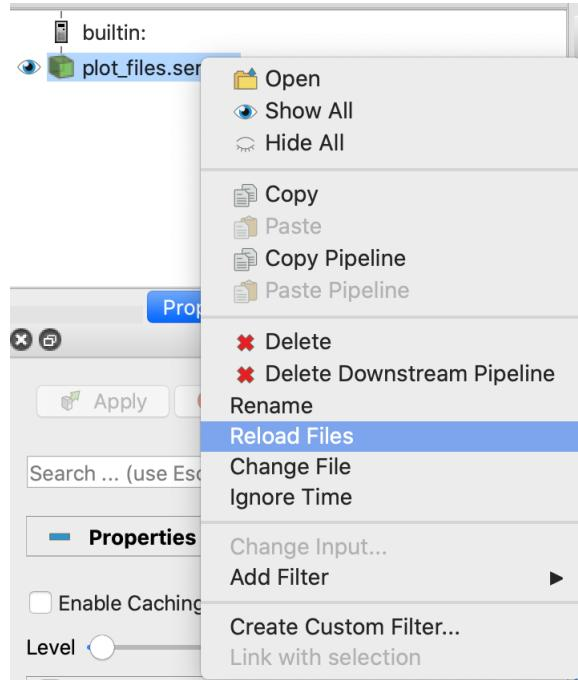
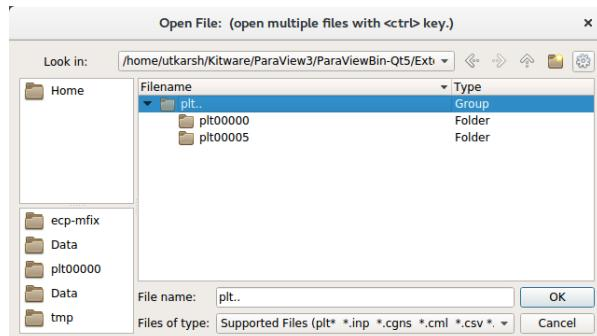

Fig. 17.2: : File dialog in ParaView showing how to reload a series file
Fig. 17.3: : File dialog in ParaView showing a group of plotfile directories selected
2. Navigate to your run directory, and select the fluid or particle plotfile. Note that you can either open single/multiple plotfile(s) at once by selecting them one by one or select an ensemble of file, labelled as `plt..` and indicated as a Group in the “Type” column of the file explorer (see Fig. 17.3). In the later case, Paraview
This will generate a file `plot_files.series`. Open ParaView, and then select “File” → “Open”. In the “Files of Type” dropdown menu (see Fig. 17.3) choose the option All Files (*). Then choose `plot_files.series` and click “OK”. Now the plotfiles have been loaded as a Group as in Step 2 of section ParaView. Now, you can follow the steps 2 to 7 in the section ParaView to plot. As new plotfiles are generated, just re-run the bash script to re-generate the `plot_files.series` file, right-click on `plot_files.series` in the ParaView menu, and click on “Reload Files” (see Fig. 17.2).
1. Run ParaView v5.7, and select then “File” → “Open”. You will see a combined “plt..” group. Click on “+” to expand the group, if you want inspect the files in the group. You can select an individual plotfile directory or select a group of directories to read them a time series, as shown in Fig. 17.3, and click OK. ParaView will ask you about the file type – choose “AMReX/BoxLib Particles Reader”.